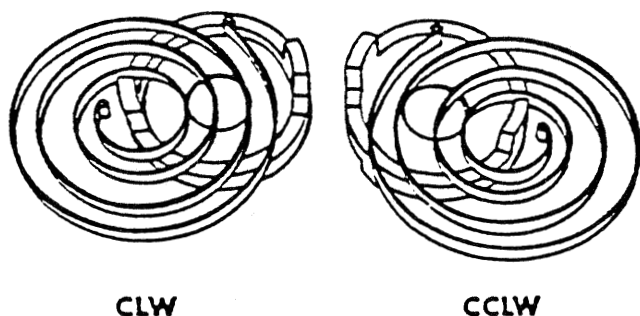
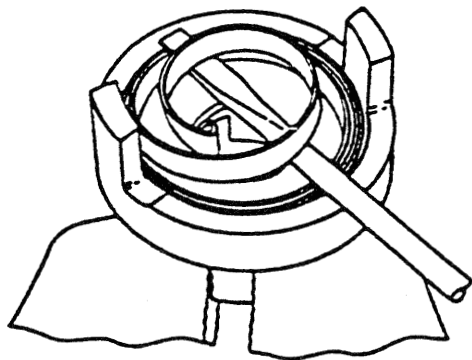

Figure 913. Orientation of Spring in Coupling Body
Figure 914. Lifting Inner End of Spring
- C. Clamp one drive lug of body (9) in a copper jaw vise with the spring recess side up. Orient spring (10) with body (9) for correct rotation. On clockwise couplings, spring must coil in a clockwise direction from the outside toward the center when viewed from the spring recess side of body. On counterclockwise couplings, spring must coil in a counterclockwise direction when viewed from spring recess. Insert eye of outer end of spring (10) into hole drilled in inner rim of body (9). See Figure 913.
- D. Using heavy gloves to protect the hands, wind spring (10) into body (9) manually, lifting spring coils one at a time over projections on body. Extreme care must be used to avoid scratching or nicking the spring. After winding spring, brush a coating of light oil over spring coils.
- E. Using a small screwdriver with all sharp edges removed, pry up one and one half turns at inner end of spring and support in position as shown in Figure 914. Do not allow screwdriver to scratch spring.